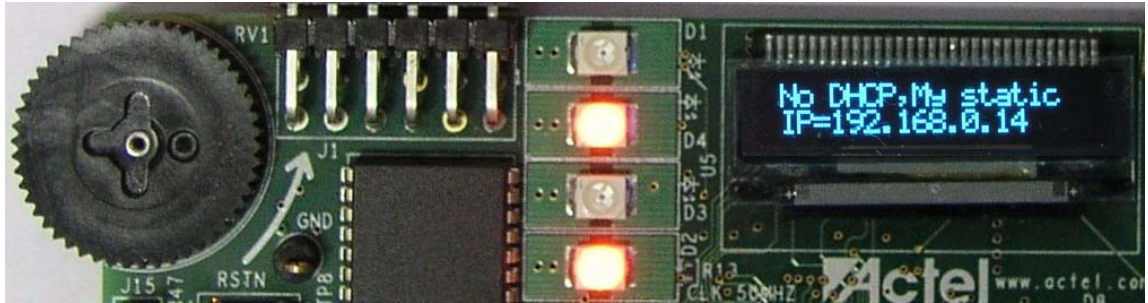

Figure 2-20 · Static IP Address
10. As there is no DHCP server available, the OLED displays “NO DHCP, My Static IP” on the first line, and the webservice default IP address, 192.168.0.14, on the second line (Figure 2-20).